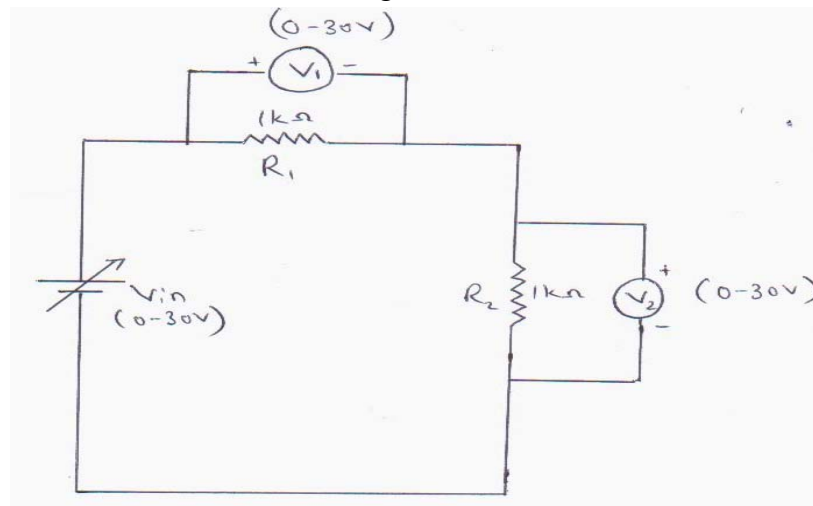

Figure 1.4
1. Connection are made as per the circuit diagram shown in figure 1.4